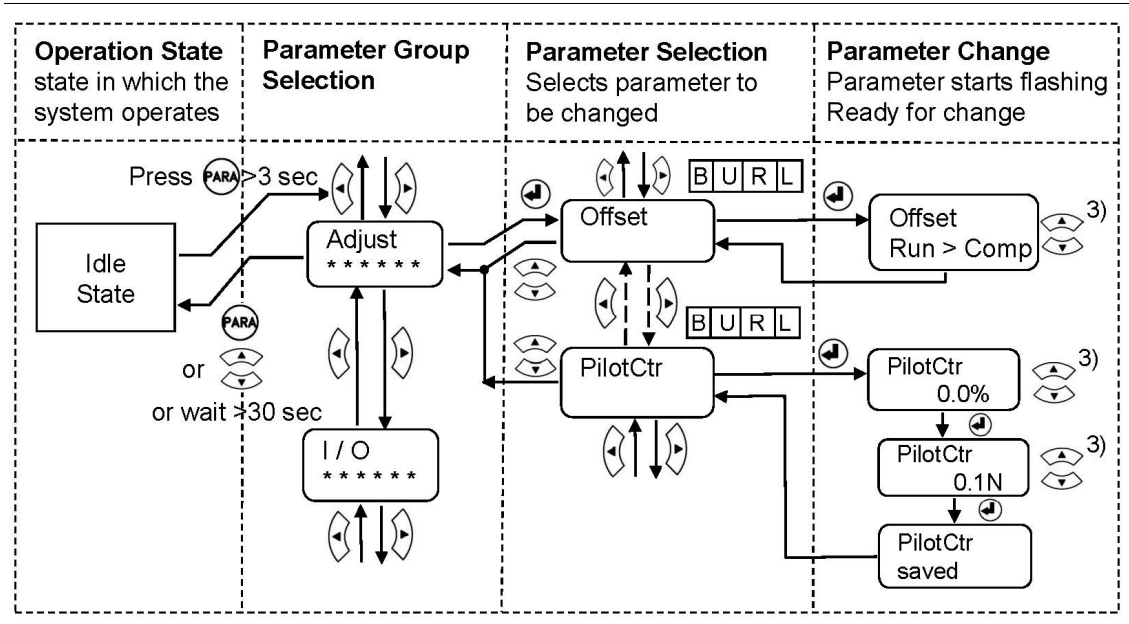

Fig. 28: State Diagram Adjustment Procedure “Pilot Control”
- In the parameter group *Adjustment Procedures* select the procedure *PilotCtrl*. Follow the instruction in Fig. 28: State Diagram Adjustment Procedure *Pilot Control*.